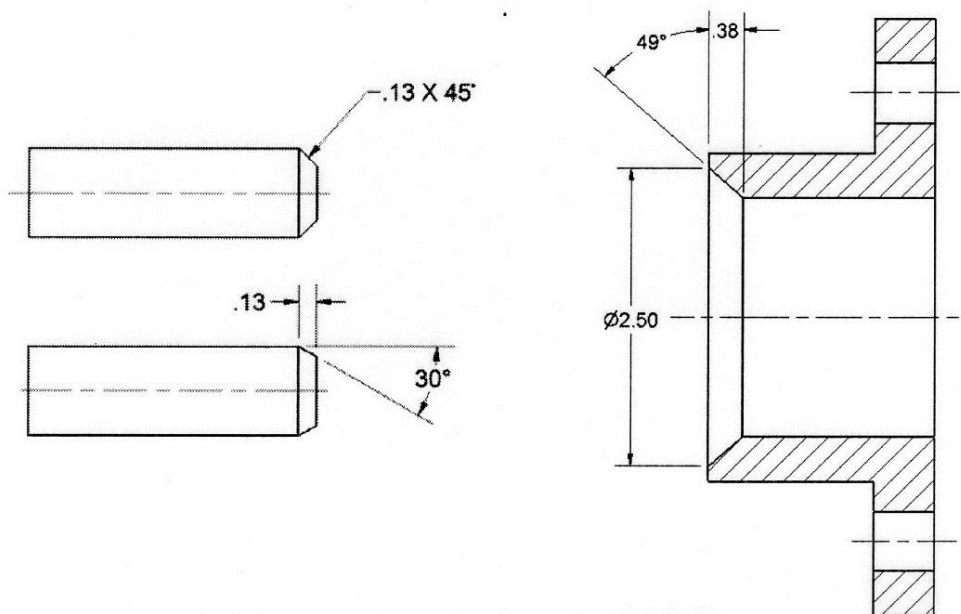

Figure 8. External and Internal Chamfers
H. Chamfer – is a beveled edge and it is dimensioned by giving the length of the offset and the angle (see Figure 8).